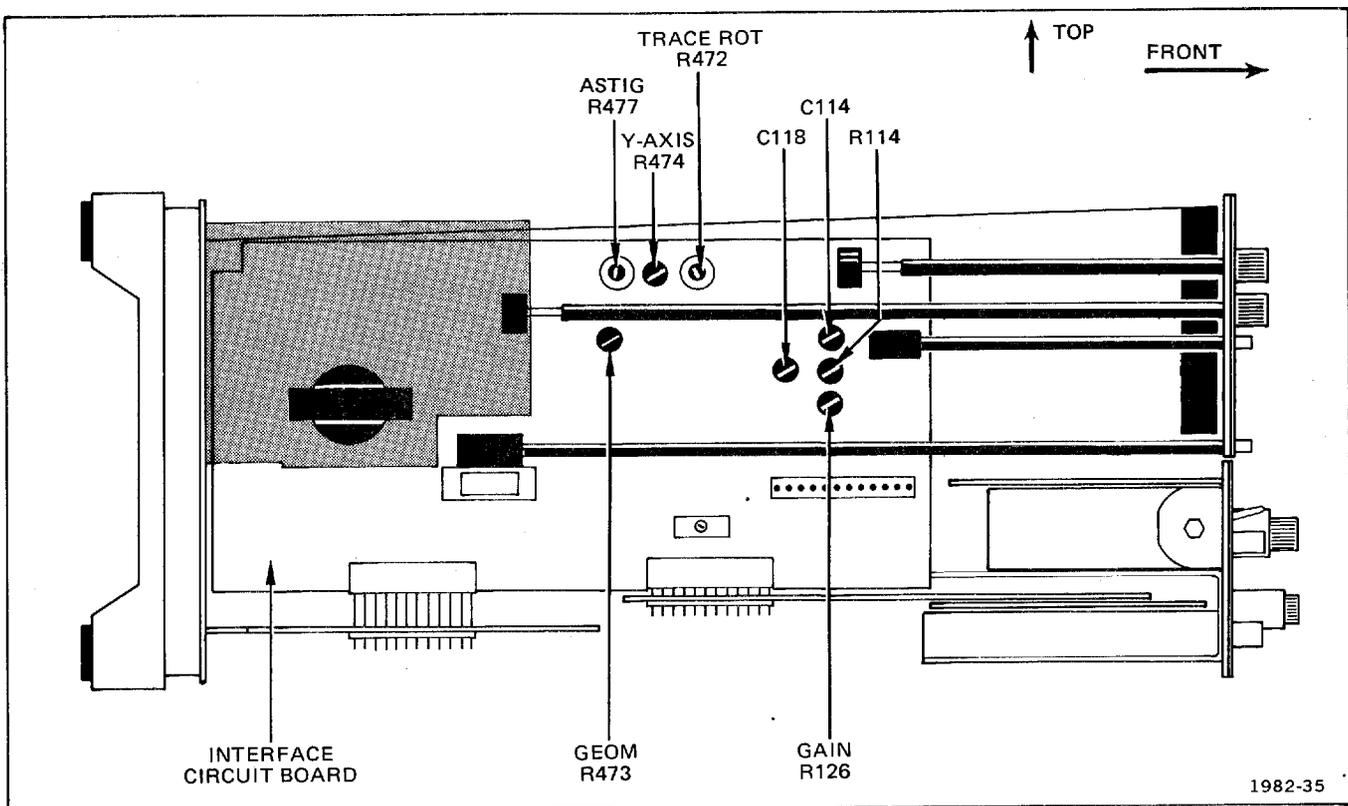
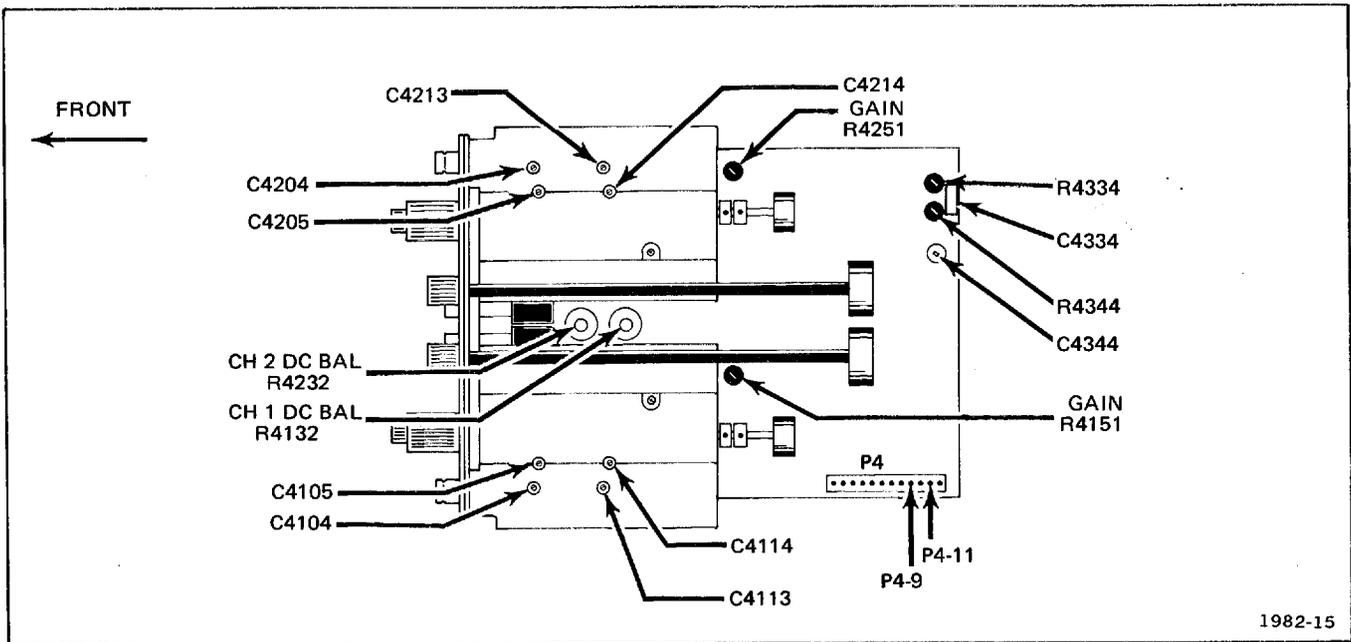
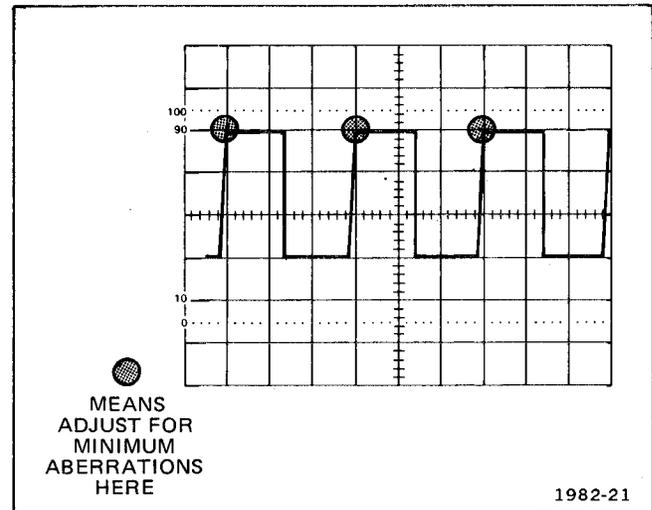

Fig. 4-3. Interface board adjustment locations.
Fig. 4-4. Vertical amplifier adjustment locations (bottom view of T921 and T922).
Fig. 4-5. Display of correct (idealized) attenuator compensation.
e. ADJUST—Y-Axis, R474, (see Fig. 4-3) to align center marker with center vertical graticule line.
b. ADJUST—Geom, R473, (see Fig. 4-3) for best alignments of markers with the vertical graticule lines.
a. ADJUST—CH 1 DC BAL, R4132 (see Fig. 4-4) for no trace shift while switching CH 1 VOLTS/DIV control between 2 mV and 10 mV.
c. ADJUST—CH 2 DC BAL, R4232 (see Fig. 4-4) for no trace shift while switching CH 2 VOLTS/DIV control between 2 mV and 10 mV.
b. Set Gain, R126 (see Fig. 4-3) to physical midrange.
c. Connect digital voltmeter between P4-9 and P4-11 (see Fig. 4-4). Select range on meter for at least 500 mV reading.
f. Adjust Gain, R126 (see Fig. 4-3), so trace aligns with third graticule line above center horizontal graticule line.
c. ADJUST—Gain, R4151 (see Fig. 4-4), for 4 division display.
e. ADJUST—Gain, R4251 (see Fig. 4-4), for 4 division display.
e. ADJUST—R4334, C4334, R4344, C4344 (see Fig. 4-4), C114, R114, C118 (see Fig. 4-3), for best front corner of waveform using low capacitance screwdriver.
c. ADJUST—C4114 (see Fig. 4-4) for best square front corner (see Fig. 4-5 for example).
e. ADJUST—C4105 (see Fig. 4-4) for best square front corner (see Fig. 4-5 for example). Disconnect test equipment.
c. ADJUST—C4214 (see Fig. 4-4) for best square front corner (see Fig. 4-5 for example).
e. ADJUST—C4205 (see Fig. 4-4) for best square front corner (see Fig. 4-5 for example). Disconnect test equipment.